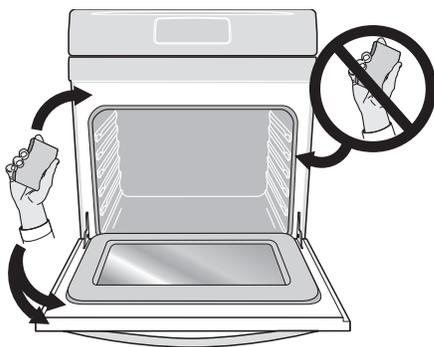

Figure 15: Clean around the oven door gasket
- Clean any soil from the oven frame, the door liner outside the oven door gasket, and the small area at the front center of the oven bottom. These areas heat sufficiently to burn soil on. Clean with soap and water. These areas are shown in white (Figure 15).
- Do not clean the oven door gasket (Figure 15). The woven material of the oven door gasket is essential for a good seal. Care should be taken not to rub, damage, or remove the gasket.